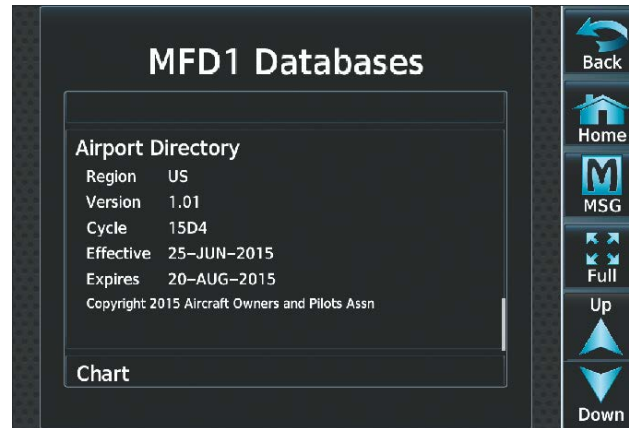

Figure 8-34 MFD Airport Directory Database Information
The Airport Directory 'Region', 'Version', 'Cycle', 'Effective' date and 'Expires' date of the database cycle can also be found on the Touchscreen Controller, as seen in Figure 8-34.
- 4) Scroll to display the Airport Directory database information as shown in Figure 8-34.